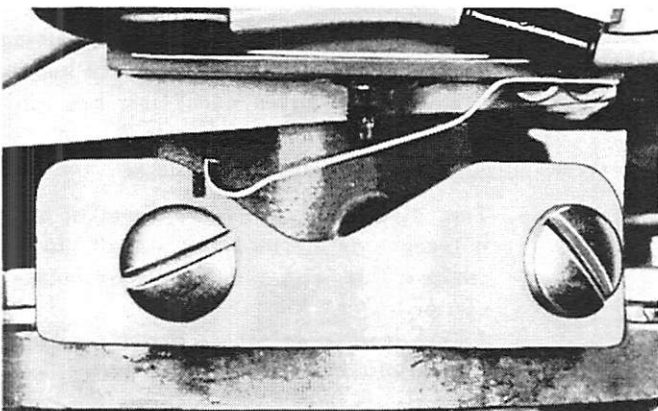

Figure 9. Reverse Starting Switch Adjustment, Late Merc 700
- b. Adjust reverse switch so that the rubbing portion of the spring leaf has started down the cam. (Figure 9) Nylon cam has mark for lineup, as shown in Figure 9.